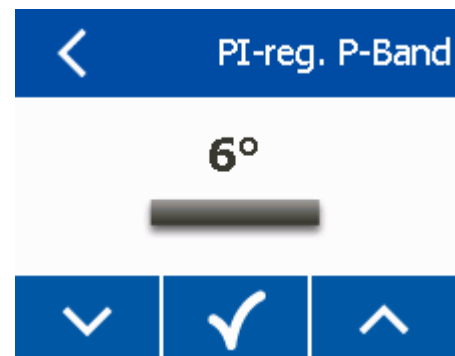

Fig. 102: PI-reg. P-Band
- ⇒ The 'PI-reg. P-Band' screen (Fig. 102) displays.